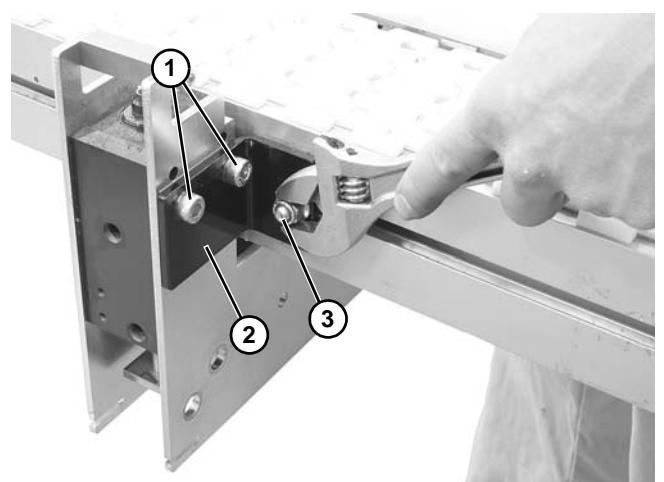

Figure 62
6. Remove two socket head screws (**Figure 62, item 1**) securing the angle bracket (**Figure 62, item 2**) to the lift and locate station.
7. Loosen hex nut (**Figure 62, item 3**) securing angle bracket to conveyor and slide out of the way.